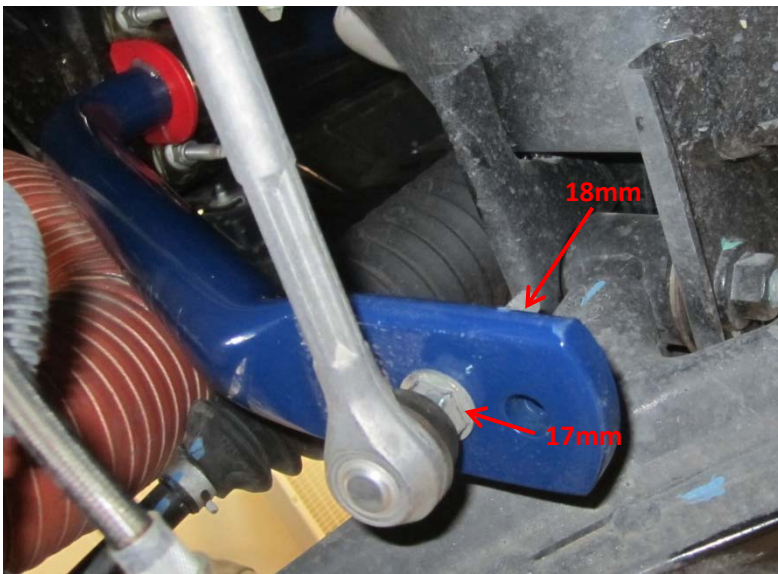

Figure 6
11. Attach drop links to the appropriate mounting hole in the sway bar end (see instructions provided with bar for adjustments and their impact) using 17mm open end and 18mm deep socket or ratcheting box end. Figure 6 show bar adjustment in middle position.